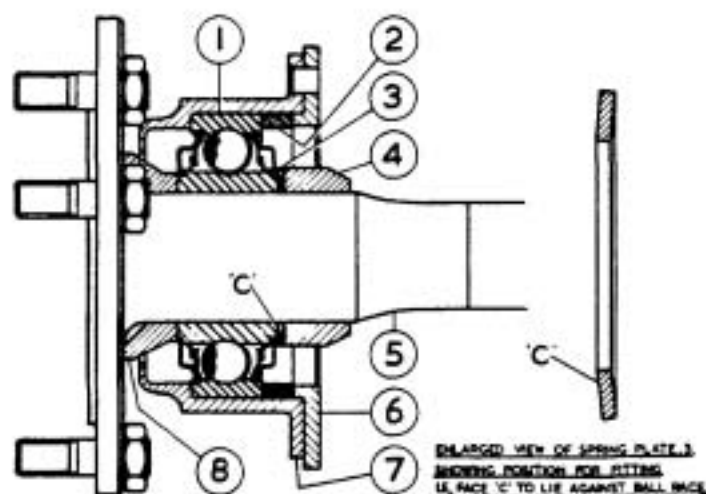

FIG. 1. SECTION - REAR AXLE SHAFT ASSEMBLY.
- (i) With the spigot plate (6 Fig.1) removed from the bearing housing, mount the assembly in a lathe, turn the collar (4) until it is very thin and then split it. This will avoid the turning tool damaging the shaft.
- (i) With a micrometer, measure the width of the outer race of the old and new bearing. The variation in outer race width should not exceed .002" = .05 mm (maker's figure). If the new bearing is wider, a similar amount should be ground off the adjusting piece (2 Fig.1), but if it is narrower or of identical width, the adjusting piece can be refitted without alteration. A .002" end float of the adjusting piece, between the outer race of the bearing and the spigot plate, could arise from this procedure which is permissible.
- (iii) Next place the distance piece (8) on to the axle shaft followed by the housing complete with bearing and press the bearing fully home. Fit the spring plate (3), making sure it is positioned the correct way round (See Fig.1).
- (iv) Squarely press on the collar (4) until it is also fully home which will automatically flatten out the spring plate. (Do not lubricate bore of collar prior to pressing it on).
- (v) Place the adjusting piece (2) in position and attach the spigot plate (6) to the housing by means of two bolts to keep the adjusting piece and spigot plate to its correct assembly.